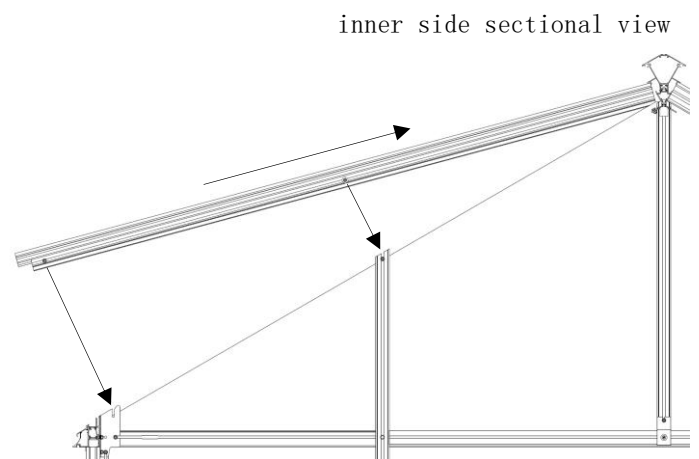

fig. 51
- carefully push the verge profile (item 5.4/5.5) further down over the edges of the window pane and insert the M6x50 hexagon head screw of the verge (item 5.4/5.5) fixed in the middle into the groove of the gable glazing-bar (repair glazing-bar) (item 12.1/12.2). Before the verge is attached to the eaves corner connector (item 6.5), a hexagon head screw (item B8.0/S1) must be inserted into the groove of the verge. (fig. 51)